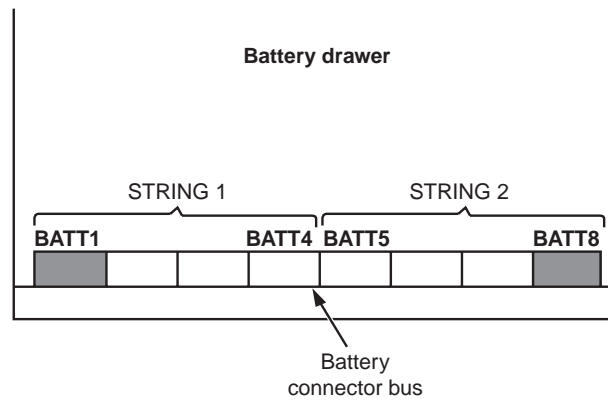
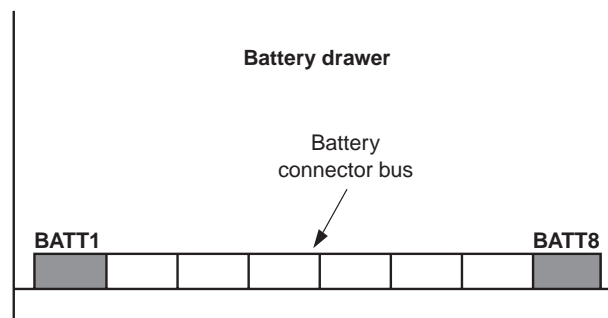

Figure 31. Battery Bus Connector Locations - 12V Batteries
Figure 32. Battery Bus Connector Locations - 6V Batteries
- Using a DMM, measure the battery string voltage at the connector bus in the battery drawer. Connect the DMM probes at the top of the open connectors for each end of the string as shown in Figure 31 or Figure 32.